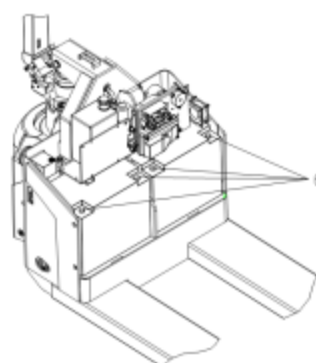

Fig.9
- (Fig 9) loose the screw on the battery terminal. Loose the positive wire first, avoid the battery short circuit ;